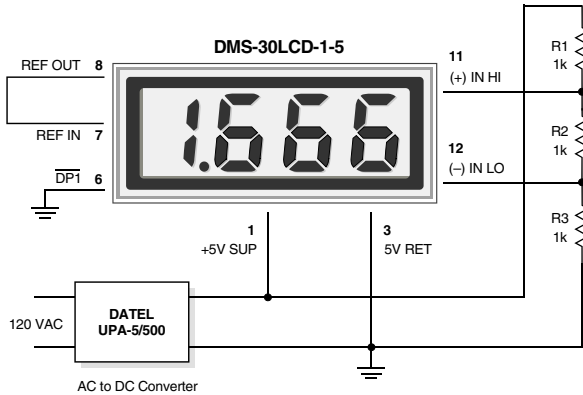

Figure 3. Differential Input Configuration (5V-Powered Models)
- 2. Differential Input Configurations:** Differential measurements can be made with either 5V-powered or 9V-powered meters. Figure 3, though not a practical real-world application, uses a voltage divider to demonstrate the concept of a differential input signal. Be careful not to exceed the $\pm 2V$ common mode voltage limitation for 5V-powered meters.